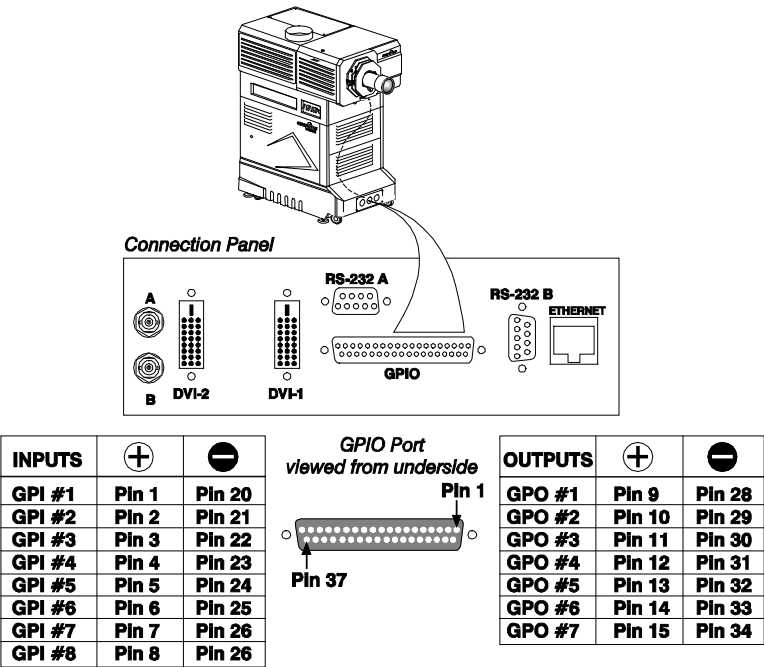
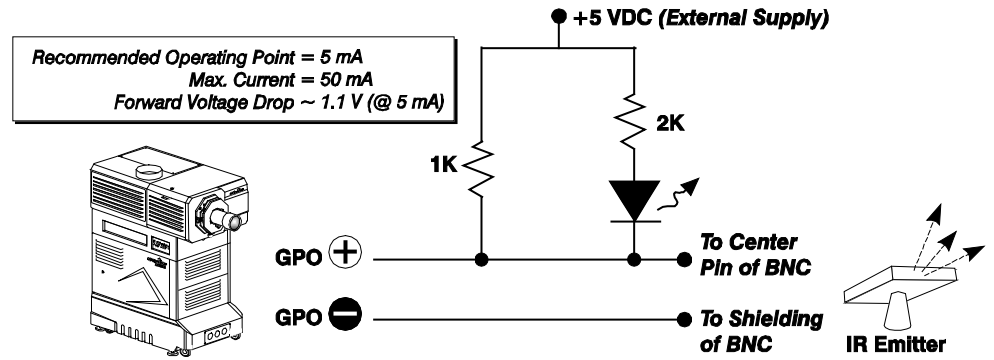

Figure C.1. GPIO Connector Pinouts
Figure C.2. Circuit for Power Supply
The GPIO Port ➤ The 37-pin GPIO connector is located on the Panel A *Source and Communication Connection Panel* located on the underside of the projection head near the front. It provides a flexible method of interfacing a wide range of external I/O devices to the projector, often so that an event on one device automatically triggers an event on the other. The pins on this connector that are configurable using the TPC’s *Custom 3D Control* menu are identified in Figure C.1.
NOTES: 1) Pins not shown in Figure C.1 are reserved for other uses, and cannot be specified at the TPC. 2) Cable access is through the pedestal “toe” at front.
If you are wiring your own GPIO cable for use with a server or 3D device such as an IR emitter or a polarizer, follow the circuit diagram in Figure C.2.
1. Assemble a cable according to guidelines shown in Figure C.1 and Figure C.2.
In the TPC's *Custom 3D Control* menu, set *Output GPO* according to the pins wired in the GPIO cable (see Figure C.1). For instance, if you have wired pins #10 (+) and #29 (-) to your 3D device, set *Output GPO* to GPO #2.